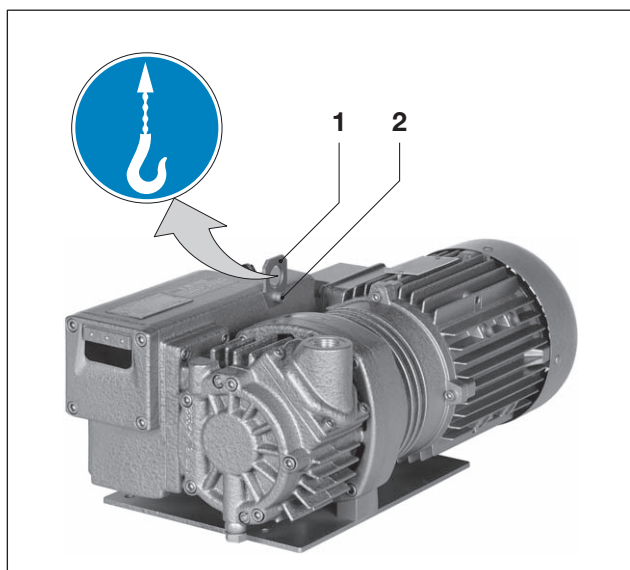

Fig. 1/1 Lifting and transporting
- a) Tighten the fixing screw (Fig. 1/2) tightly to the transport shackle (Fig. 1/1) .
**The air vent (Fig. 1/B) must not be closed or restricted.**